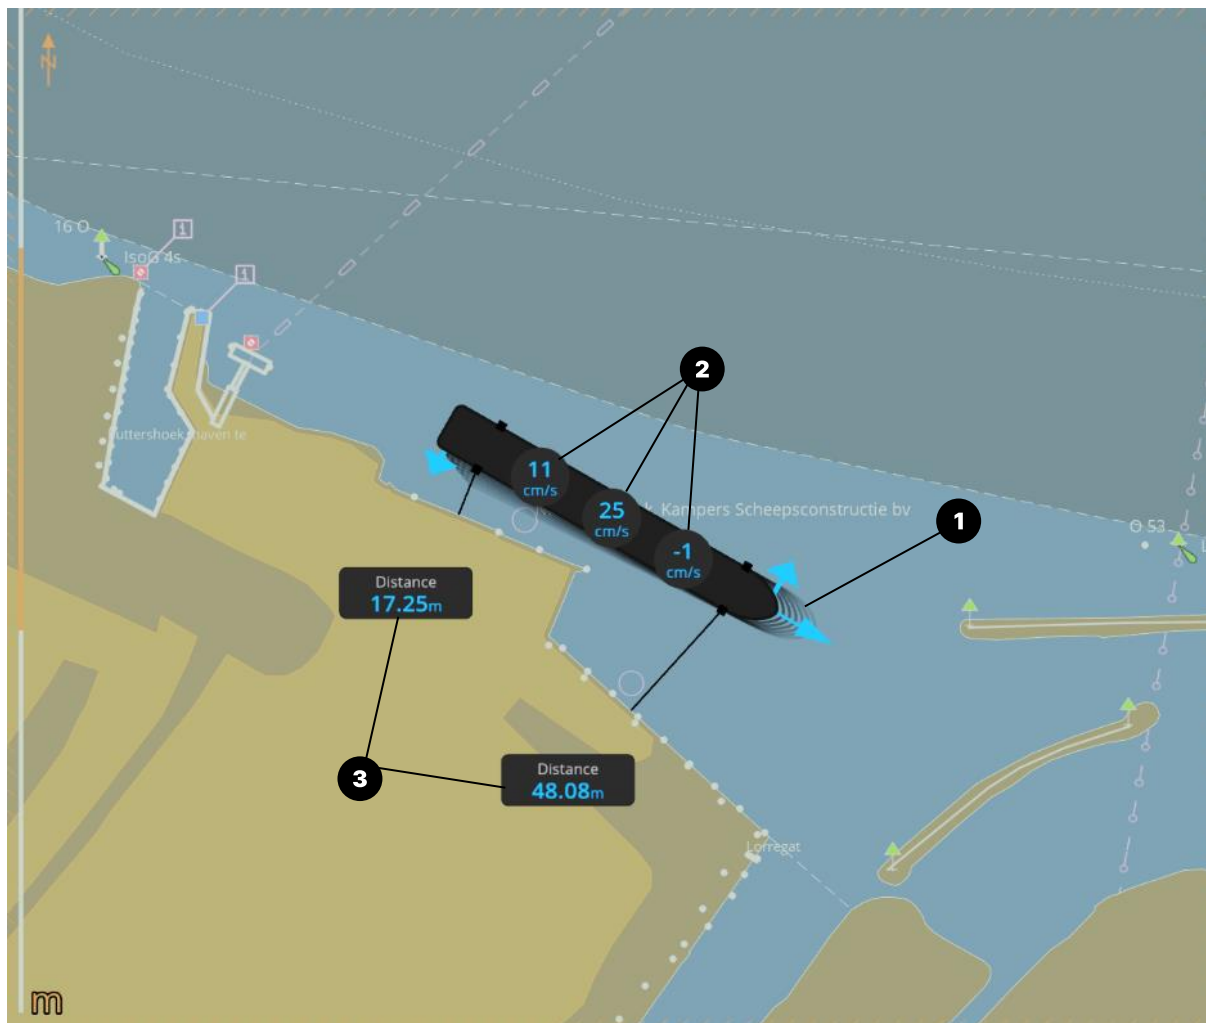
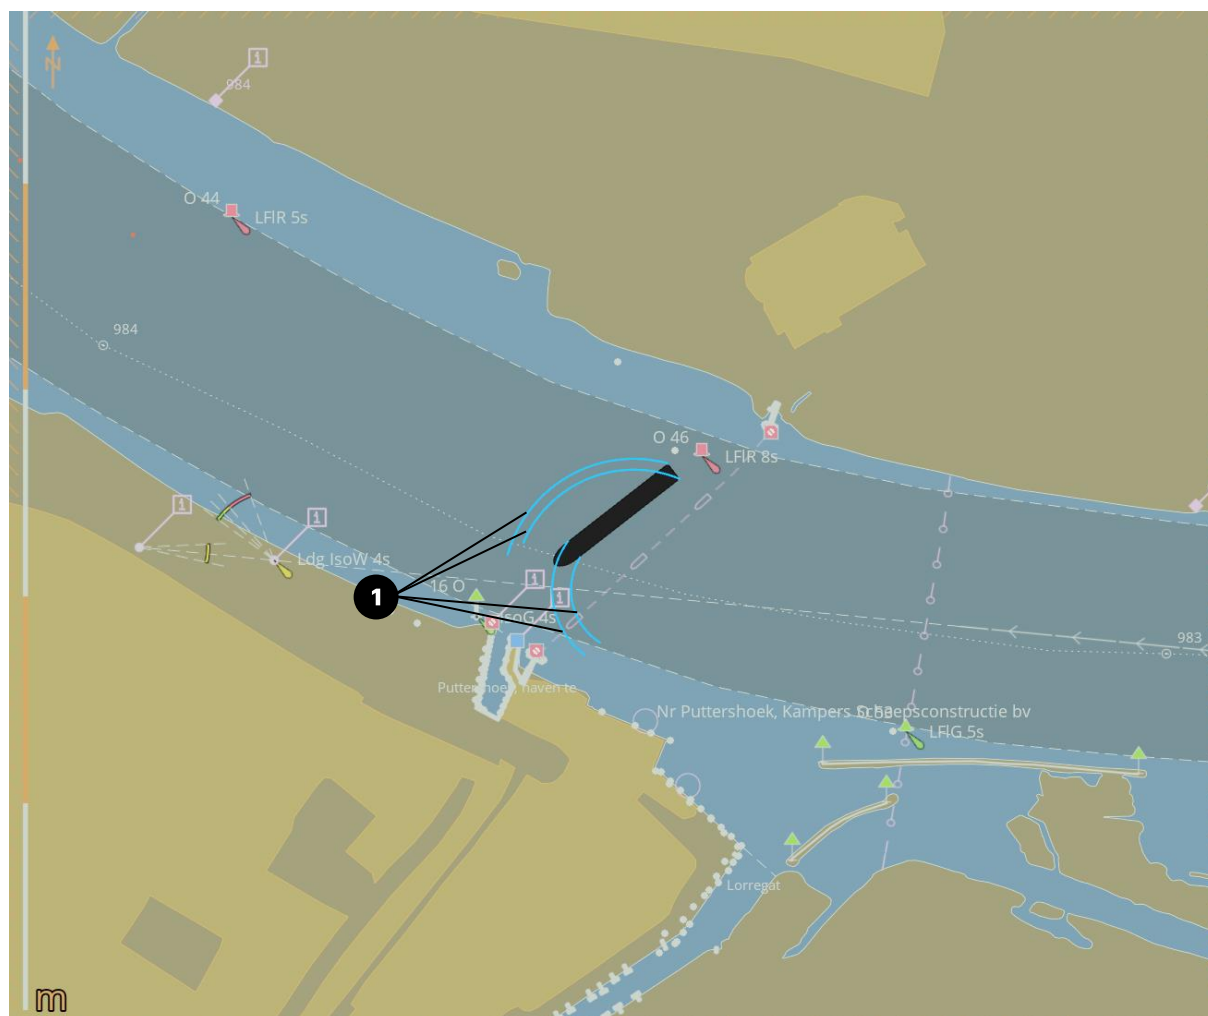

Figure 7: AlphaMINDS Docking application > Main area > Docking mode example
Figure 9: AlphaMINDS Docking application > Main area > Harbor mode example
- **Position prediction vessels;** a layer that shows one or more scale models of the vessel at a predicted position. It can be used during Docking to see if the vessel is properly steered and aligned. It can also be used during turns for obstacle avoidance. See Figure 7 for an example.
- **Position prediction lines;** a layer that shows four lines (one from each 'corner' of the vessel) to indicate the predicted vessel position. It can be used in Harbor conditions to see if the vessel is properly steered and aligned. See Figure 9 for an example.
- **Speed information;** a layer that shows speed info on top of the vessel. It is typically used during Docking or Lock Approach to see if the vessel is properly controlled. See Figure 7 for an example.
- **Distance information;** a layer that shows the distance from vessels' hull to the quay (or other objects in the chart) as reference into the current chart will also be presented. See Figure 7 as an example.
Figure 7 shows the following layers: (1) Position prediction vessel, (2) Speed information, and (3) Distance information.
Figure 9 shows the following layer: (1) Position prediction lines.
LAYERS - POSITION PREDICTION  	<p>Show Vessel (i.e. one or more scale models of the vessel at a predicted position):</p> <ul style="list-style-type: none"> <li>- Auto (position prediction vessel will be shown when in Docking mode (see Figure 7 on page 41))</li> <li>- On</li> <li>- Off</li> </ul> <p>Show Lines (i.e. two lines that show the predicted vessel position):</p> <ul style="list-style-type: none"> <li>- Auto (position prediction lines will be shown when in Harbor mode (see Figure 9 on page 43))</li> <li>- On</li> <li>- Off</li> </ul> <p>NOTE: Visualization can be altered (refer to chapter 'Settings').</p>
<p>LAYERS – SPEED INFO</p> 	<p>Show Speed:</p> <ul style="list-style-type: none"> <li>- Auto (speed info will be shown (on the vessel) when in Docking mode (see Figure 7 on page 41) or Lock Approach mode)</li> <li>- On</li> <li>- Off</li> </ul>
<p>LAYERS – DISTANCE INFO</p> 	<p>Show Distance:</p> <ul style="list-style-type: none"> <li>- Auto (distance info will be shown (on the chart) when in Docking mode (see Figure 7 on page 41) or Lock Approach mode)</li> <li>- On</li> <li>- Off</li> </ul>